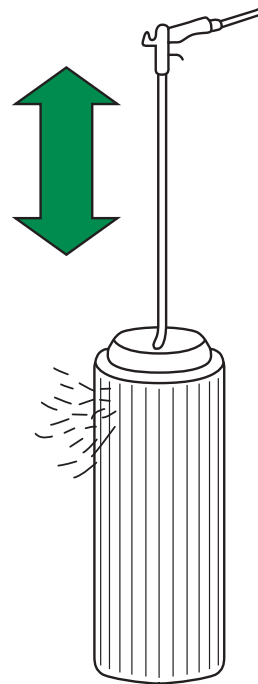

Fig. 5: Cleaning the main element
- In order to clean, position a pipe with an end bent by approx. 90° on the end of compressed-air pistol. The pipe must be long enough to reach to the bottom of the filter element. Carefully blow out the filter element with dry compressed air (max. 5 bar) from the inside to the outside, or from the clean air side to the dirty air side until there is no more development of dust. The end of the pipe must not touch the element (see Fig. 5).